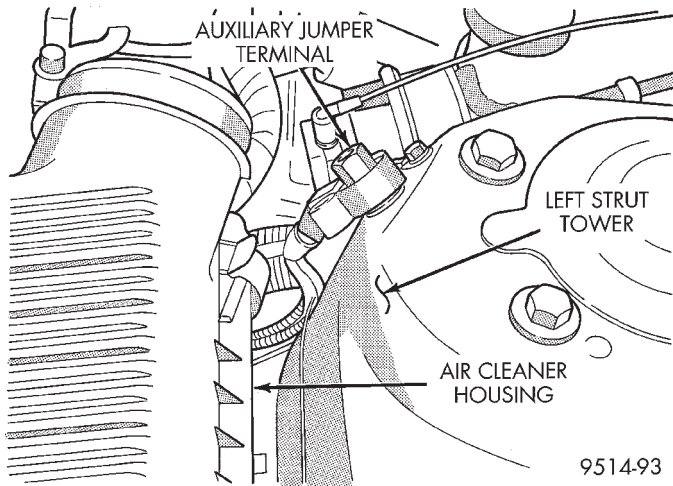
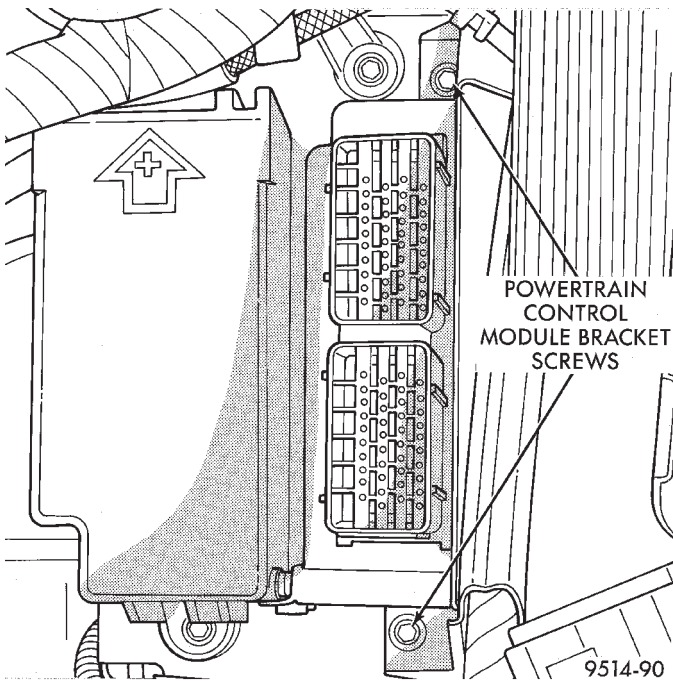

Fig. 77 Auxiliary Jumper Terminal
Fig. 78 PCM Bracket Screws
- (1) Disconnect negative cable from auxiliary jumper terminal (Fig. 77).
- (2) Disconnect both 40-way connectors from PCM.
- (3) Remove screws attaching PCM to bracket (Fig. 78).
- (4) Lift PCM up to remove it from vehicle.